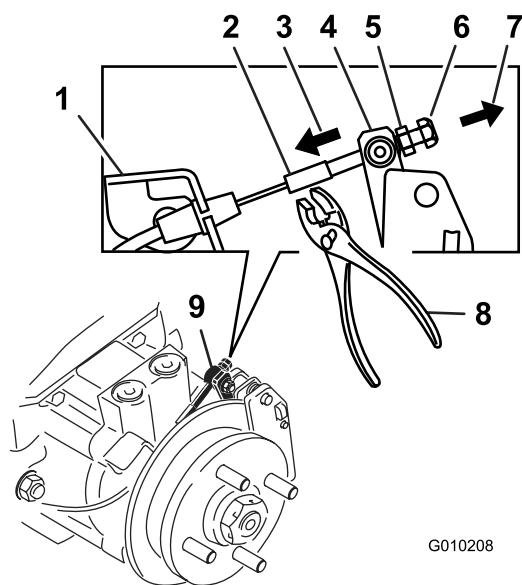

Figure 78
9. Using hands and fingers only, push the caliper lever arm to engage the brake pads on the rotor until the lever stops (Figure 78).
10. While holding the lever at the stopped position, use the other hand or fingers to pull the cable threaded end tight through the swivel. Spin the standard nut against the swivel (Figure 78).